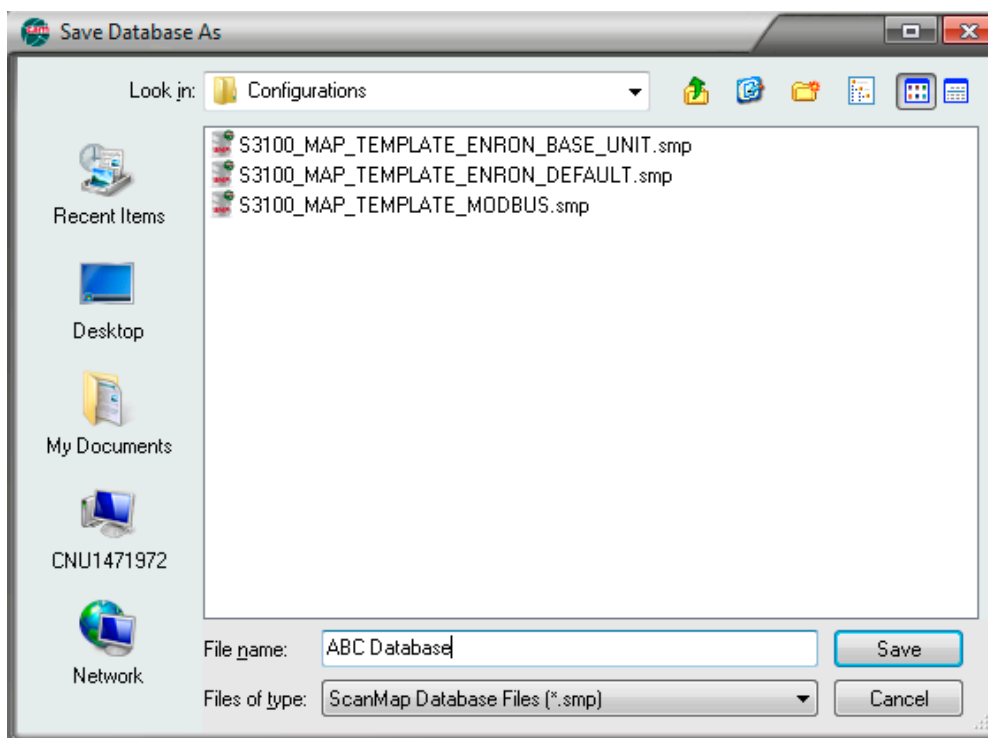

Figure 4.3—Save Database As dialog
3. From the “Firmware Version” dropdown menu, select a different firmware version if the map is being built for use with a different firmware version than the default version shown. The New Database dialog will close and a *Save Database As* dialog (Figure 4.3) will appear, populating the name selected in Step 2 as the database filename.
3. In the *Save Database As* dialog (Figure 4.3, page 16), browse to the desired save location, enter a unique name in the “File Name” field and click **Save**.